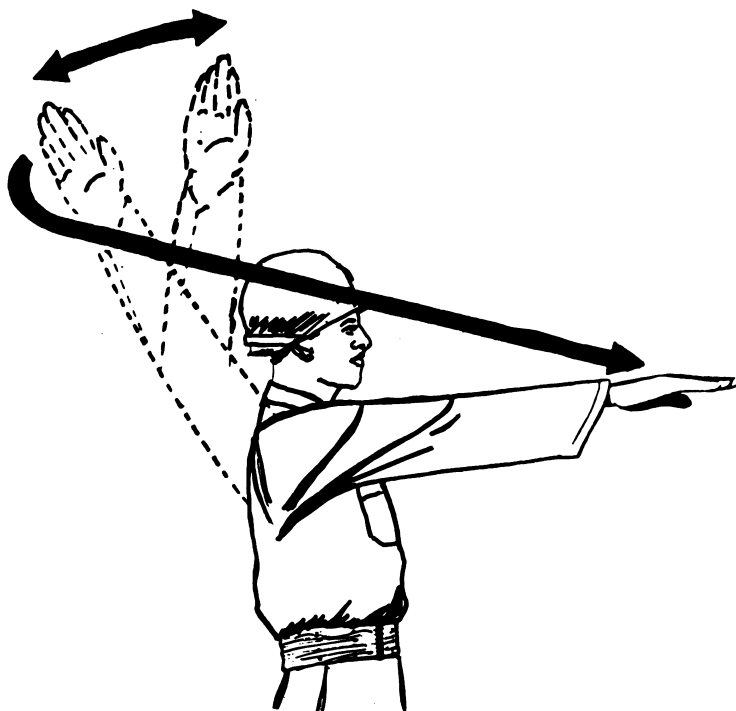

Figure 14. Takeoff.
n. To indicate takeoff, extend right hand overhead, make circular movement, then using a throwing motion, extend arm in the direction of takeoff (fig. 14).